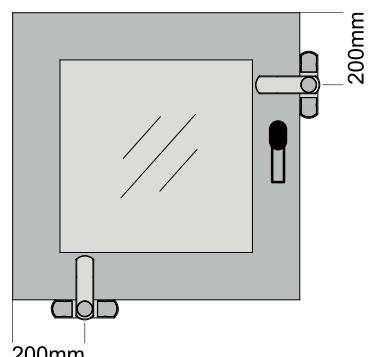

Figure 2: Recommended assembly position
- 1 Close the window or French window and determine the assembly position (see Figure 2).